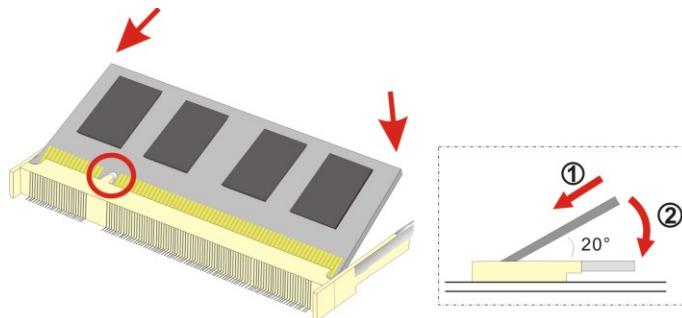

Figure 4-1: SO-DIMM Installation
To install an SO-DIMM, please follow the steps below and refer to **Figure 4-1**.
Step 3: Insert the SO-DIMM. Push the memory in at a 20° angle. (See **Figure 4-1**)
Step 4: Seat the SO-DIMM. Gently push downwards and the arms clip into place. (See **Figure 4-1**)